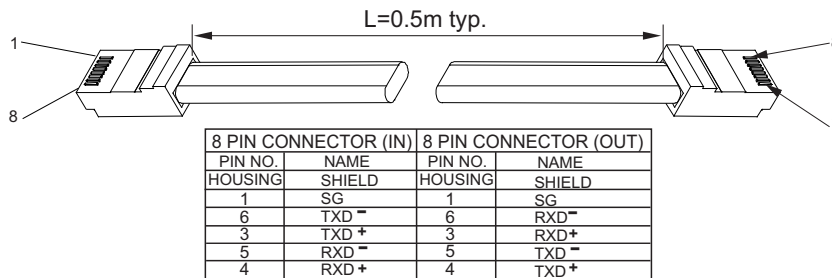

Fig7-6: Serial link cable with RJ-45 shielded connectors (P/N: GEN/RJ45)
- Using the Linking cable supplied with each unit (refer to Fig.7-6), connect each unit OUT connector to the next unit IN connector.